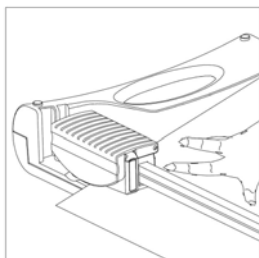

Fig. 4
- 8 Slide the cutting head to one side of the guide rail (Fig. 4).